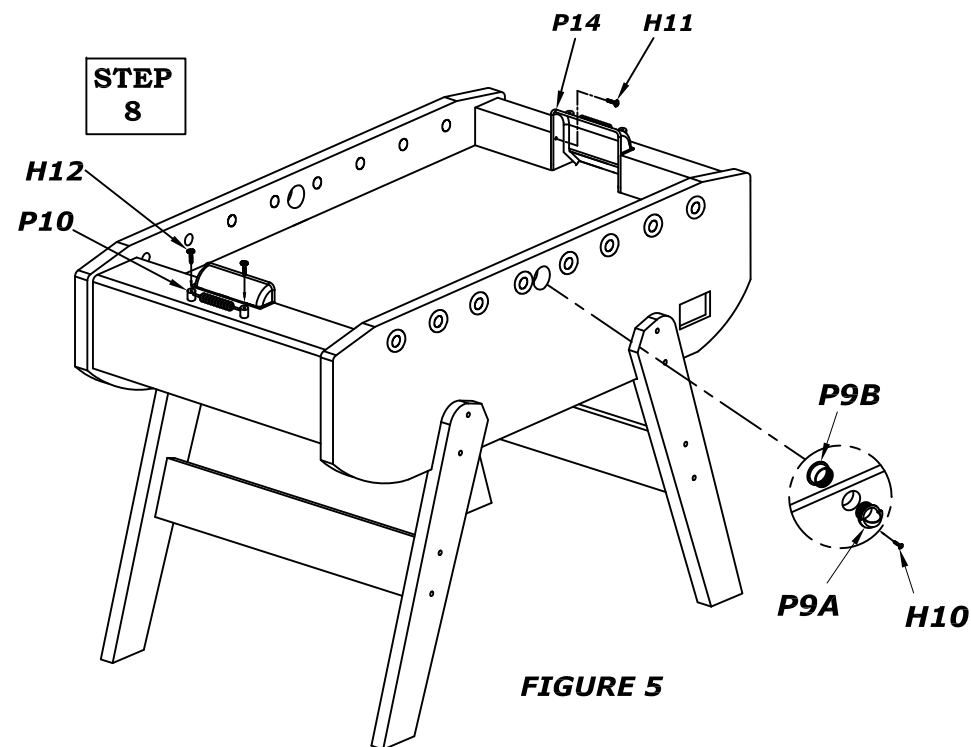

FIGURE 5
- ATTACH BALL ENTRY CUPS **P9A** AND **P9B** TO THE SIDE PANELS WITH SCREWS **H10** AS SHOWN IN **figure 5**. ATTACH THE SHIELD **P14** TO THE END PANEL WITH SCREWS **H11** AS SHOWN IN **FIGURE 5**. ATTACH THE TWO SETS OF SLIDE SCORER **P10** TO THE END OF TABLE WITH PHILLIS HEAD SCREWS **H12**.